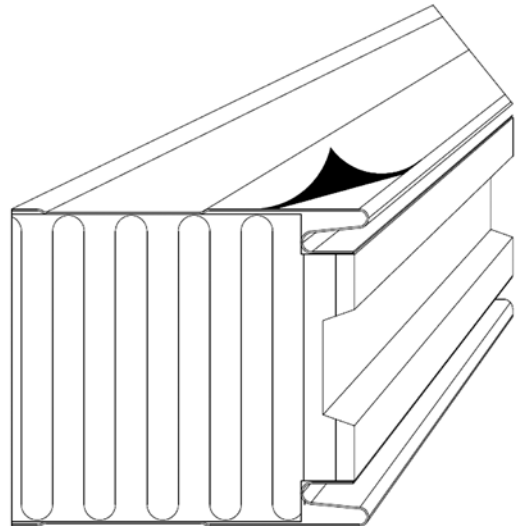

Fig. 16. Peel off protective film from internal facing of panels.
- Remove protective film from internal cladding of panels, where such elements as flanges, dome skylights or water drains are installed – see fig. 16.